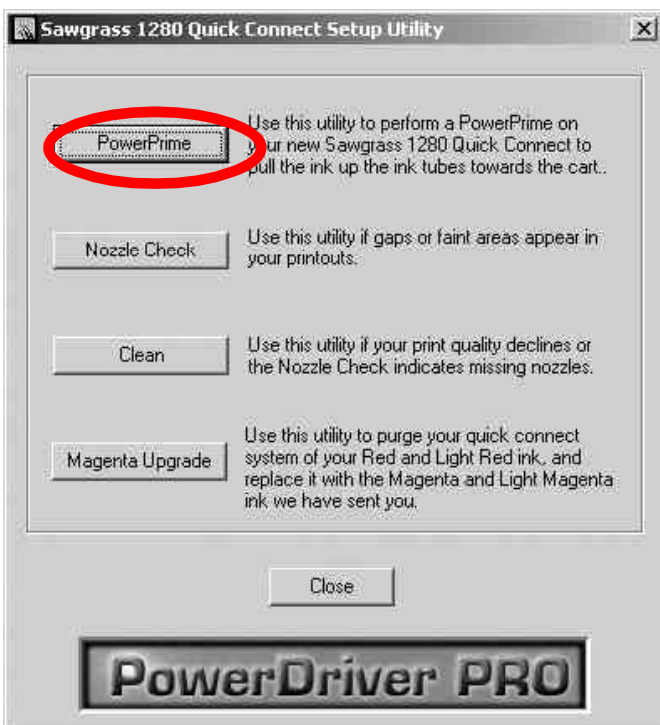

Fig. 2
- v. On the Setup Utilities screen click the **PowerPrime** button; see Fig 2.